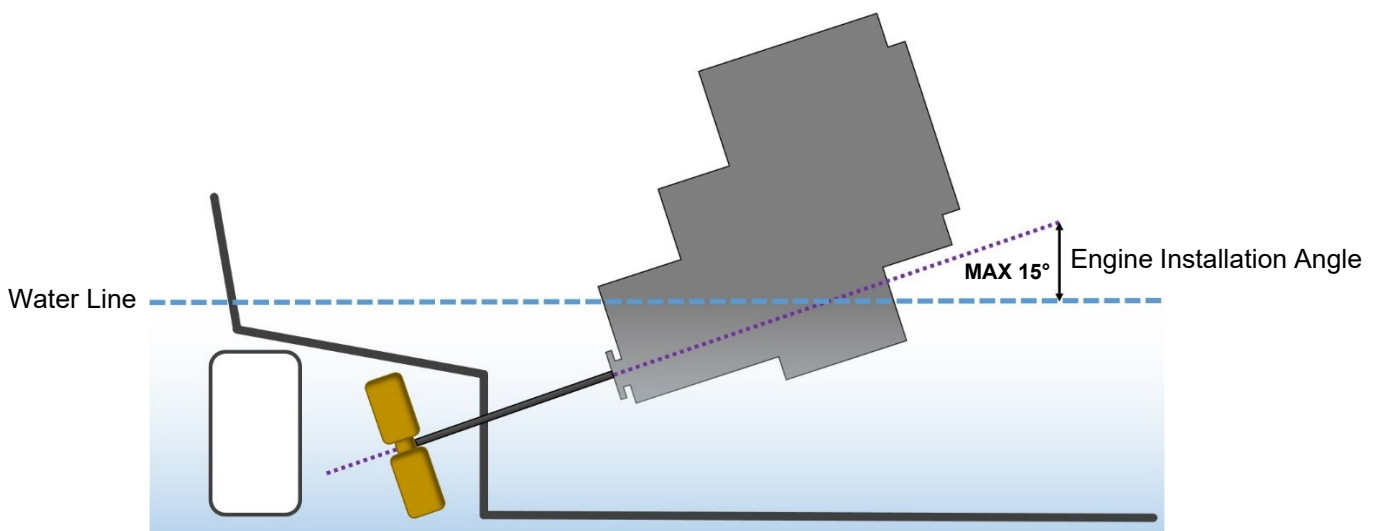

Figure 11: Maximum Engine Installation Angle
- The engine installation angle is the angle of the crankshaft centre to the water line (**Figure 11**).